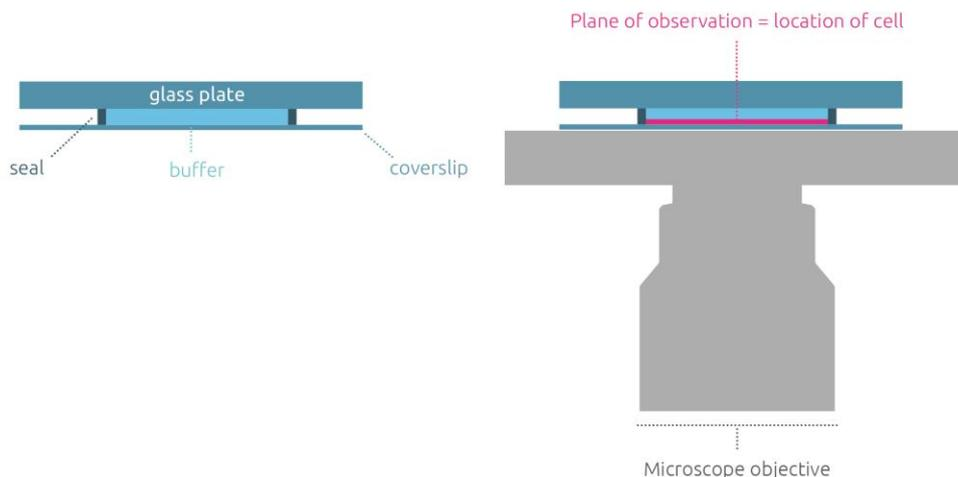

Figure 4. Schematic of observation of cells with the 3D Cell Explorer located between glass plate and coverslips
- Observe the slide upside down (i.e. with the coverslip slide facing the objective) (Figure 4).